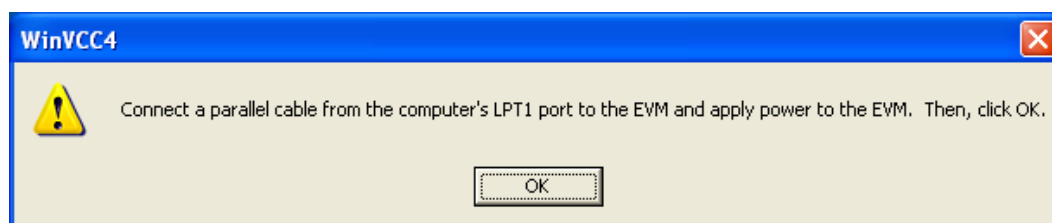

Figure 4-3. Corrective Action Required
- b. The dialog shown in Figure 4-3 provides instructions on how to correct the problem.